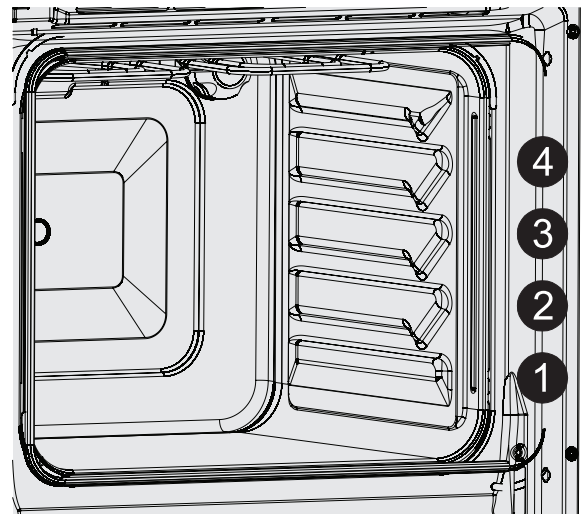
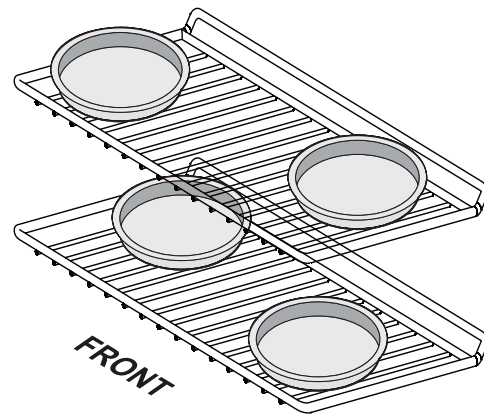

Figure 11: Oven rack positions
Figure 13: Baking with multiple racks
- For best results when baking with one oven rack, place racks in positions 2 or 3 (Figure 11).
- For best results when baking cakes or cookies using two oven racks, place racks in positions 1 and 3 (Figure 11) and place pans as shown in Figure 13.